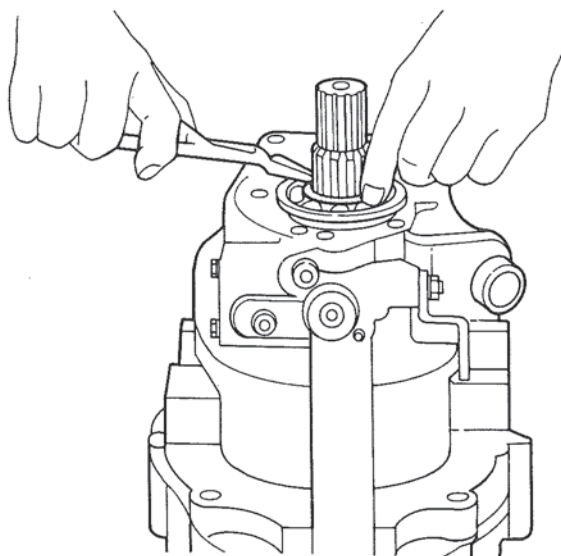

Figure 17. Installing Snap Ring onto Output Shaft.
8. Install the snap ring firmly into the exposed groove on output shaft. Figure 17.